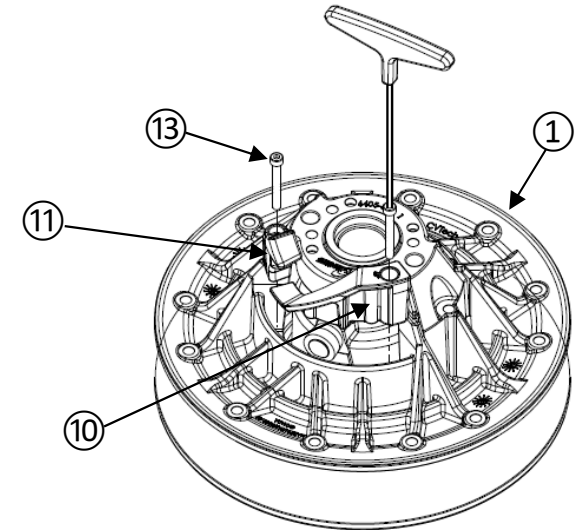

Figure 22
- Remove the 4 retaining screws ⑬ (and washers ⑫ if applicable) of the 2 forward ramps ⑩ and the 2 helix ⑪ from the fixed sheave ① (figure 22).
- Remove the 2 forward ramps ⑩ and the 2 helix ⑪.